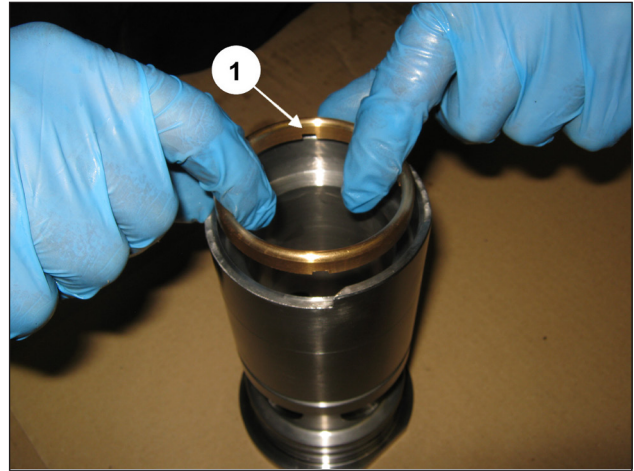

Fig. 123
Fit the head ring (pos. ①, Fig. 123), the high pressure seal (pos. ①, Fig. 124), and the restop ring (pos. ①, Fig. 125) and the centring ring (pos. ①, Fig. 126).